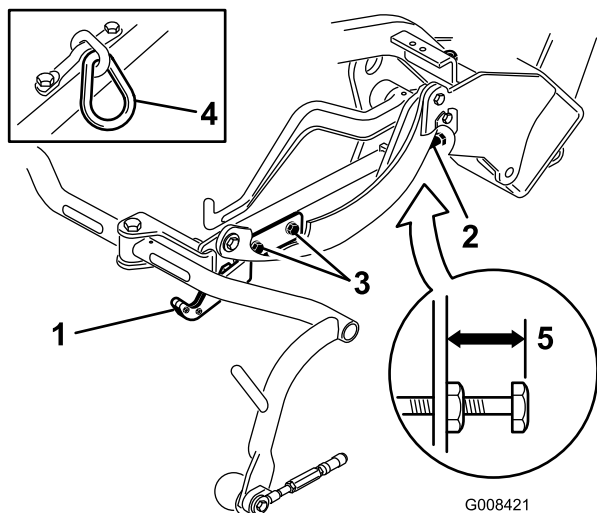
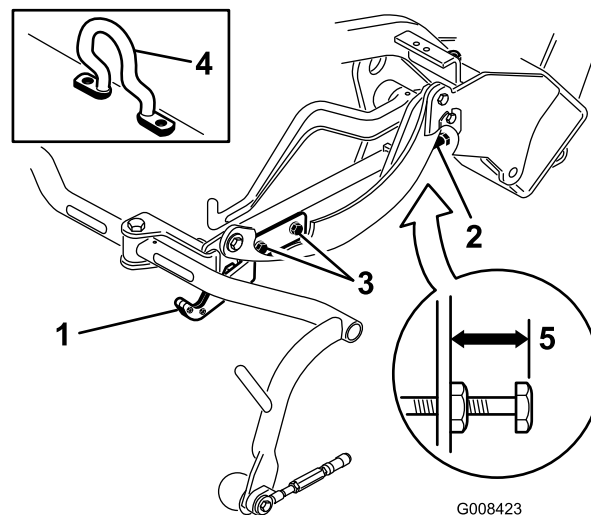
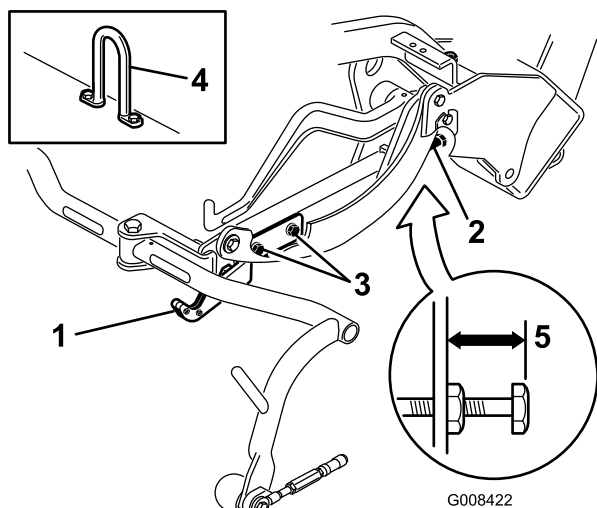

Figure 13
Figure 15
Figure 14
Check the transport height (Figure 13 & Figure 14) and adjust, if required.
2. On cutting units equipped with a chain link or a straight lift hook (Figure 13 & Figure 14, insets) verify that the distance from the top of the carrier frame adjusting screw to the back of the carrier frame is 7/8 inch (22 mm). If the distance is not 7/8 inch (22 mm), proceed to step 4. If the cutting unit is equipped with an offset lift link (Figure 15), proceed to the next step.
4. Loosen the transport plate mounting screws (Figure 13, Figure 14 and Figure 15).
7. If the carrier frames are not at the same height, loosen the jam nut on the carrier frame adjusting screw (Figure 13, Figure 14 and Figure 15). Rotate the screw outward to raise and inward to lower. Tighten the jam nut after the proper height is obtained.
3. On cutting units equipped with a offset lift hook (Figure 15, inset) verify that the distance from the top of the carrier frame adjusting screw to the back of the carrier frame is 1 inch (25 mm). If the distance is not 1 inch (22 mm), proceed to step 4.